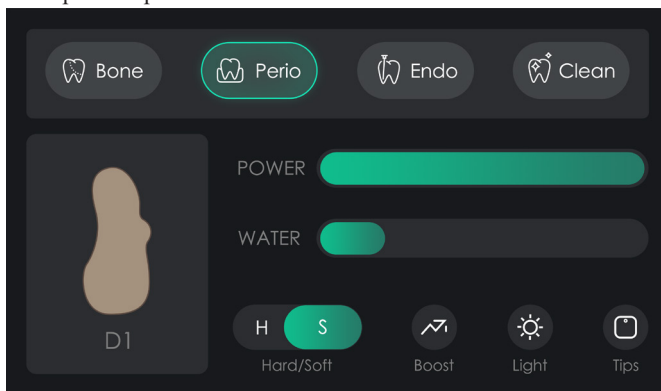

Fig.10
As shown in Fig. 10, when the mode name " perio " is selected in the green frame, the device is in periodontal mode; in this mode, the function buttons are in
7.2.3 ENDO function (Fig.10)